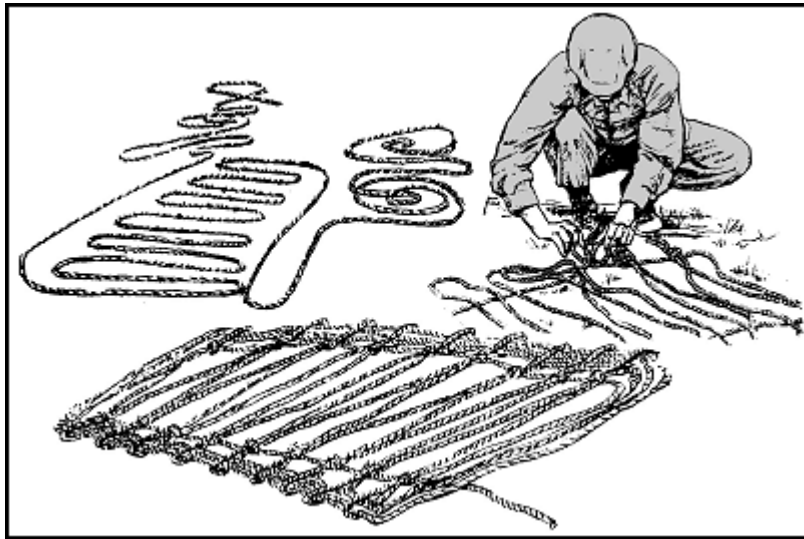

Figure 11-3. Rope litter.
(1) Litters can also be made by securing poles inside blankets, ponchos, shelter halves, tarpaulin, jackets, shirts, sacks, bags, or mattress covers. Poles can be improvised from strong branches, tent supports, skis, and other similar items.
(2) If poles cannot be found, a large item, such as a blanket, can be rolled from both sides toward the center. Then the rolls can be used to obtain a firm grip to carry the victim. If a poncho is used, the hood must be up and under the victim, not dragging on the ground.
(3) A rope litter is prepared using one rope (Figure 11-3). It requires 20 to 30 minutes to prepare and should be used only when other materials are not available. Four to six bearers are required to carry the litter. The rope litter is the most commonly used field-expedient litter.